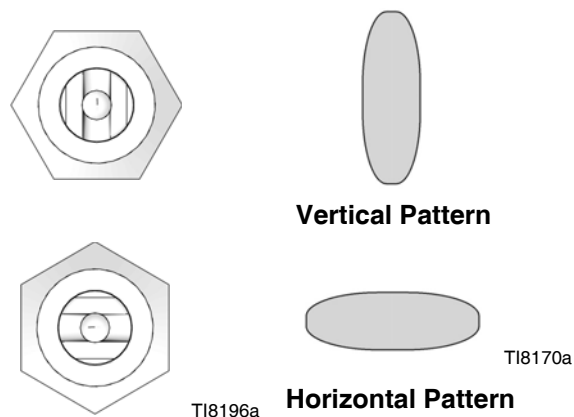

FIG. 7: Spray Pattern
1. To adjust the spray pattern direction with fan tips, orient the slot in the tip horizontally for a horizontal pattern and vertically for a vertical pattern. See Fig. 7.